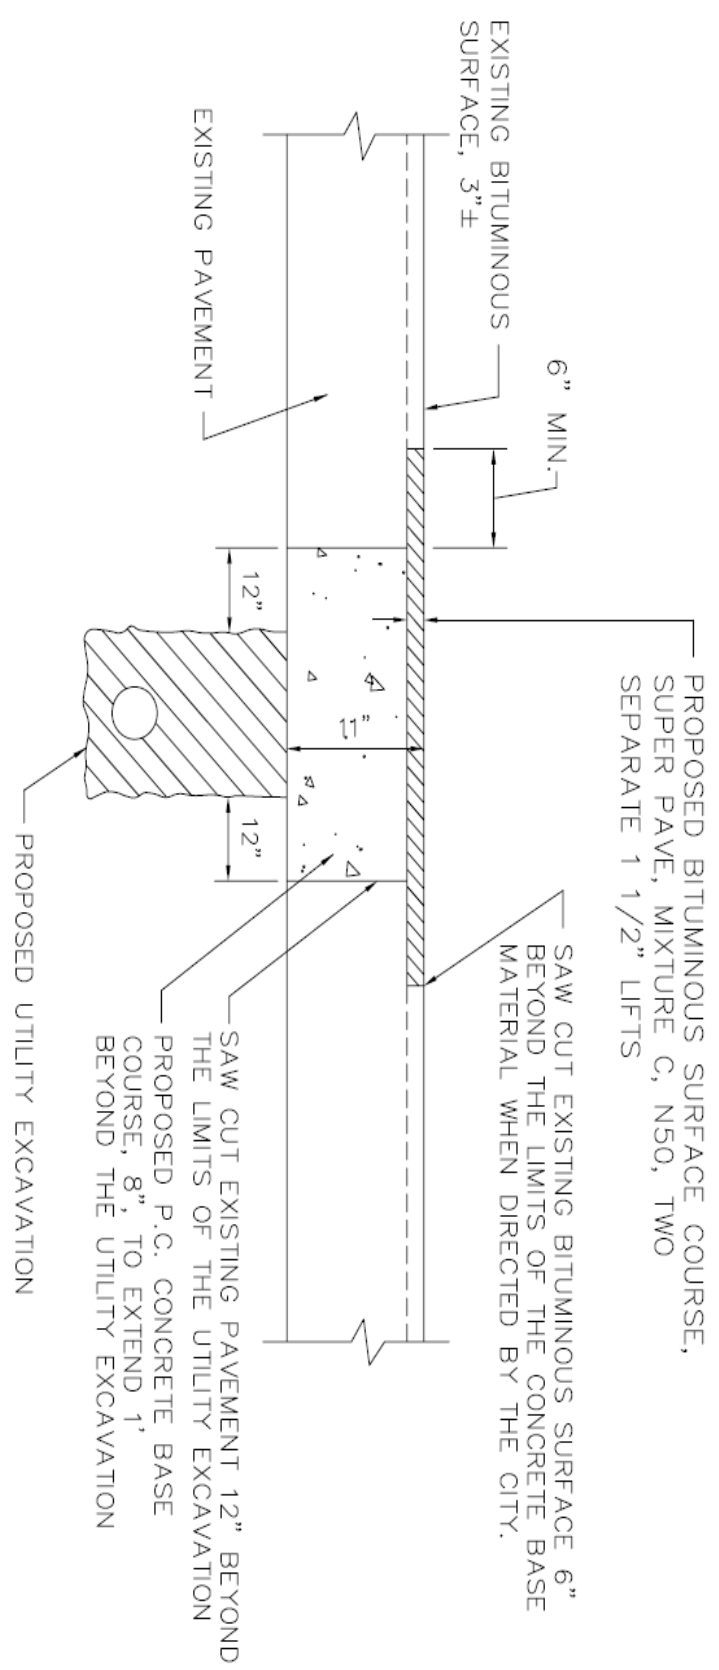

FIGURE 1
4. Permanent pavement repairs shall be made within fifteen (15) calendar days from the time the utility work commenced, depending upon availability of hot asphalt mix.
5. Permanent pavement repairs shall conform to figure 1 and the following:
- i. The bituminous surface materials shall be placed in two (2) separate one and one-half inch (1½") lifts. The bituminous materials shall meet the requirements of "Bituminous Concrete Surface Course, Superpave, Mixture C, N 50" as specified by IDOT. The asphalt shall be placed and compacted in accordance with IDOT specifications.